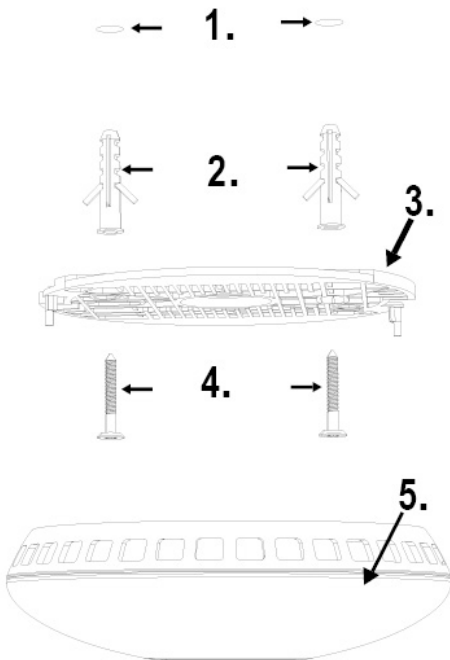

Figure 1.
3. Mount the bracket. See figure 1. for attaching it to the ceiling.